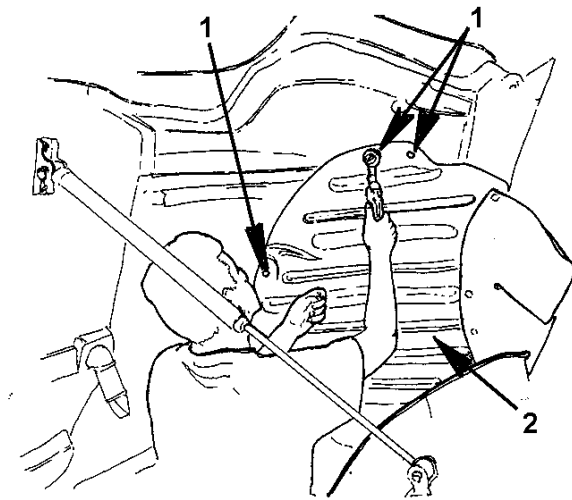

Figure 30 Splash Panel Remove/Install (Passenger Side Shown)
1. Align the splash panel mounting holes with the hood mounting holes (Figure 30, Item 1) insert the mounting bolts and lock washers.
4. Insert the mounting bolts (Figure 30, Item 1) and lock washers.